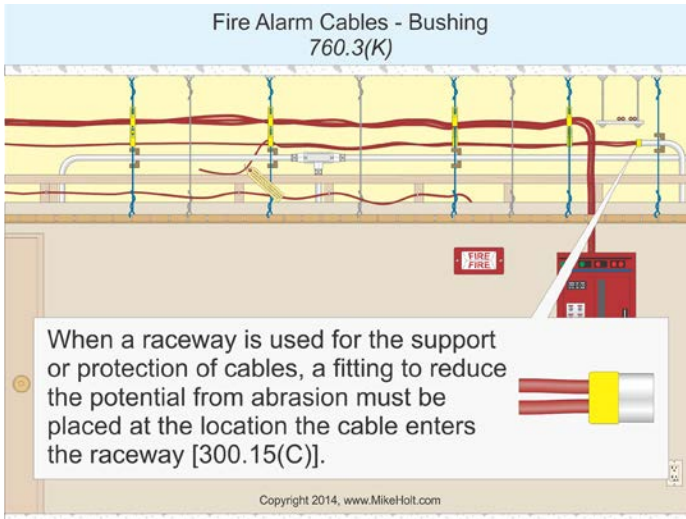

Figure 760-7
**(K) Bushing.** When a raceway is used for the support or protection of cables, a bushing to reduce the potential for abrasion must be placed at the location where the cables enter the raceway in accordance with 300.15(C). **Figure 760-7**